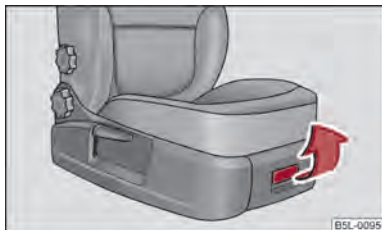

Fig. 82 Front passenger seat: Storage compartment
- Tilt the lock to open the flap and pull out the flap ⇒ fig. 82.